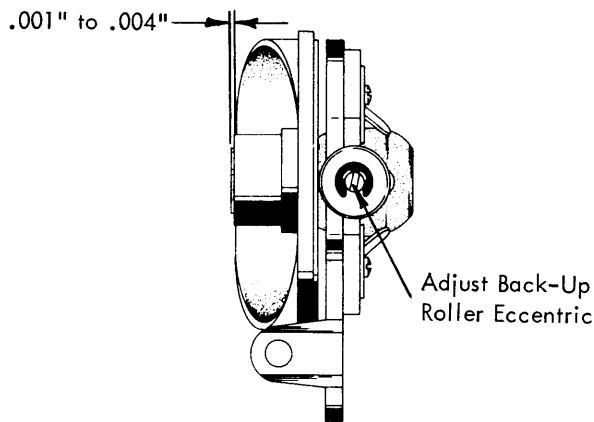

FIGURE 20. Shift Cam Back-Up Roller Adjustment
1. Shift Cam Back-Up Roller - Adjust the back-up roller eccentric left or right so that .001" to .004" of the cam bearing extends beyond the cam (Fig. 20). The eccentric should be kept in the bottom half of its orbit.